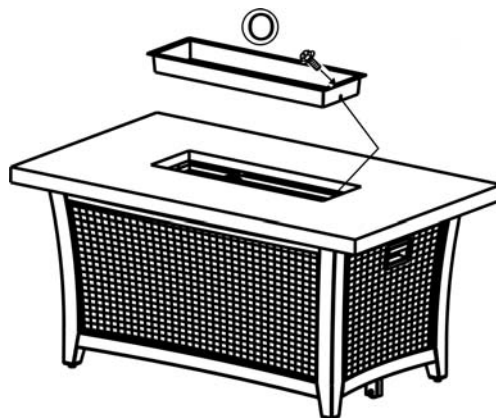

Figure 4
3. With the help of another person, turn the table in the upright position. Place the burner pan protective ring into the firepan/burner assembly as shown in Figure 4. Align the holes in the burner pan protective ring with the pre-drilled holes on the firepan/burner assembly. Secure the burner pan protective ring to the firepan/burner assembly by using the two M4 screws as shown in Figure 4.